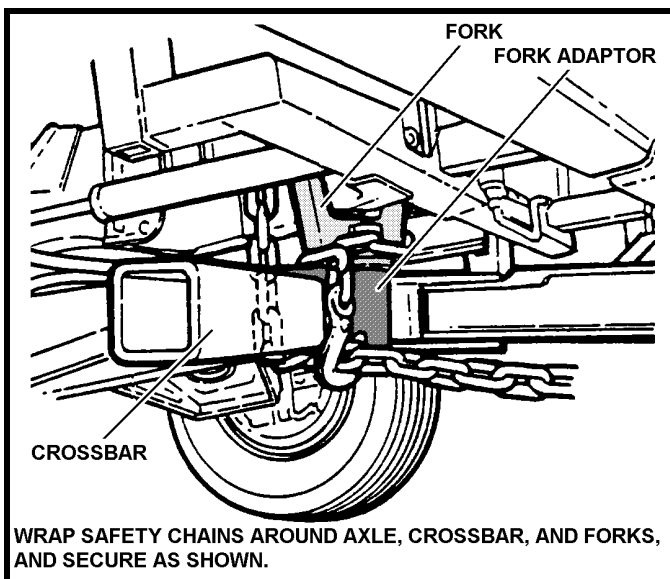

FIGURE 4A.19
- (h) Tighten "T" Handles on adapters. Attach safety chains around axle or frame, crossbar and forks as shown in Figure 4A.19.